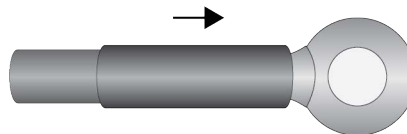

Figure 49. Sliding the Heat-Shrink Tube Over the Ring Terminal Lug
5. Slide the heat-shrink tube over the shaft of the ring terminal lug. Refer to Figure 49.